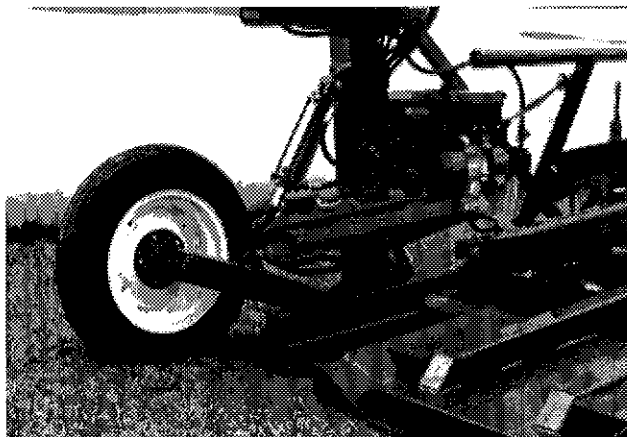

Figure 21
- 6) Lower rear wheels in order to remove ground friction while keeping it close to the ground. (Fig. 21) This adjustment may vary according to ground conditions and topography.